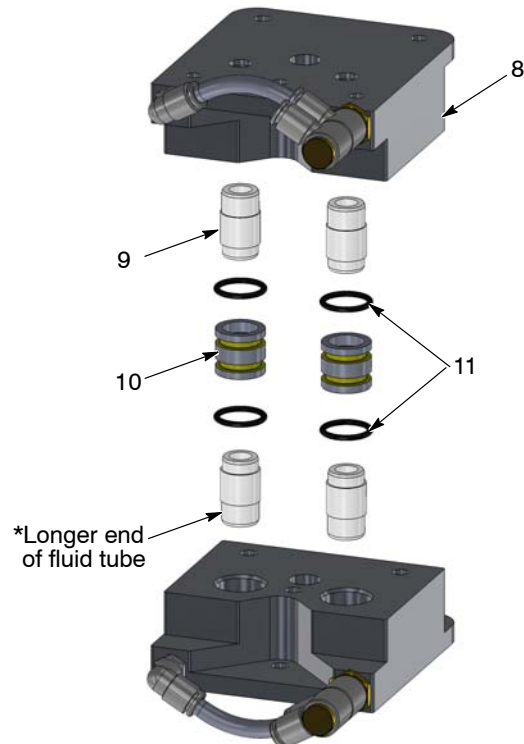

Figure 6 Middle Siphon Block Components
5. See Figure 6. Wiggle the screw driver back and forth to remove the fluid tubes (9).
**NOTE:** Observe the orientation of the fluid tube during disassembly. The longer end of the fluid tube must be inserted into the middle block (8).
- Using a finger, securely seat two O-rings (12) in each middle block (8).
- Using a large flat head screwdriver, insert two check valves (14) into each middle block (8).
- Using a 10-mm Allen wrench, insert two fittings (13) into each middle block (8).
- See Figure 6. To connect the two middle blocks (8), insert two fluid tubes (9) into each middle block. Secure two O-rings (11) on each bushing (10). Apply light pressure to secure the two middle blocks together.